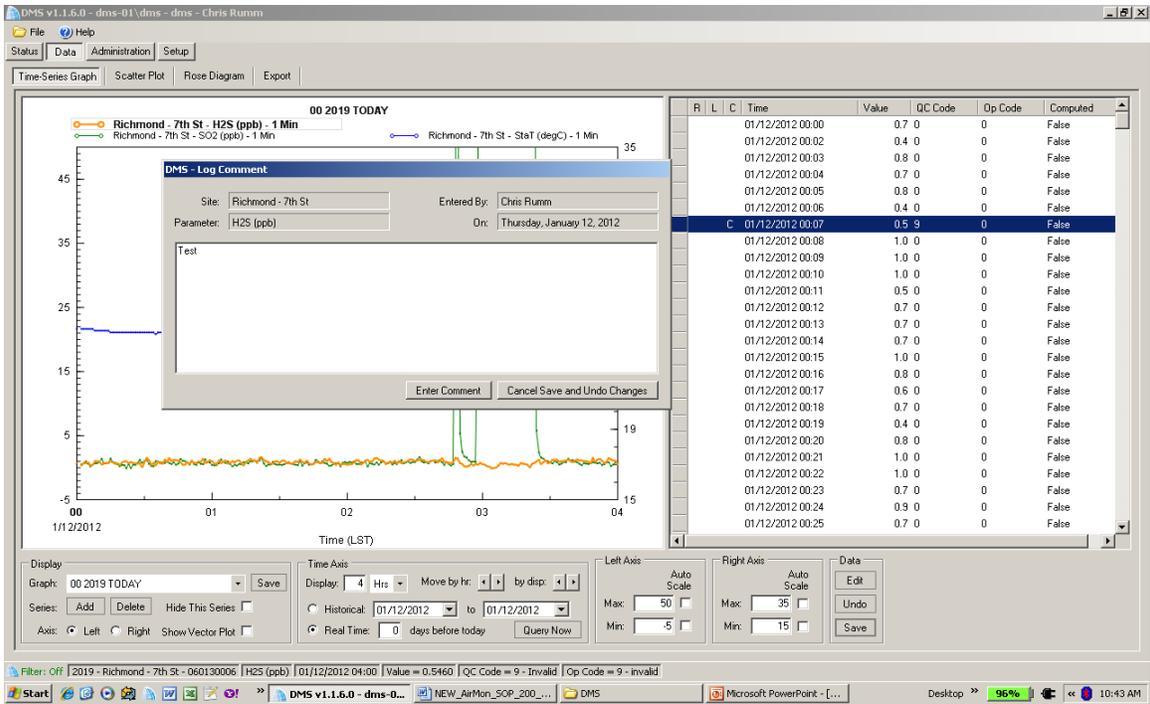

Figure 10: DMS Log Comment Window
- f. Enter the appropriate comment in the DMS Log Comment (Figure 10: DMS Log Comment dialog box and select the **Enter Comment** tab to save; Select the **Cancel Save and undo Changes** to cancel;